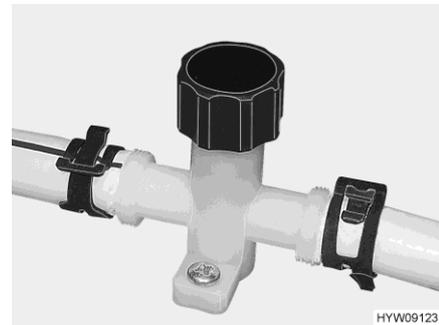

Fig. 155 Drain cock (water pipe)
- Close the drain cocks. In order to do this, turn the cap of the drain cock (Fig. 155) in a clockwise direction.